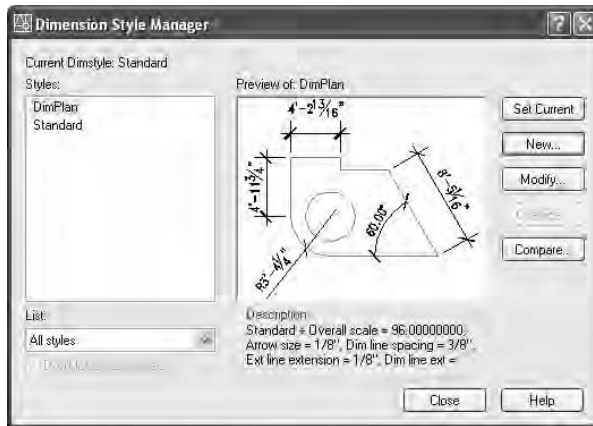

FIGURE 11.8: The Dimension Style Manager dialog box with DimPlan listed
1. Click the OK button at the bottom of the New Dimension Style dialog box. You will be returned to the Dimension Style Manager dialog box (see Figure 11.8).